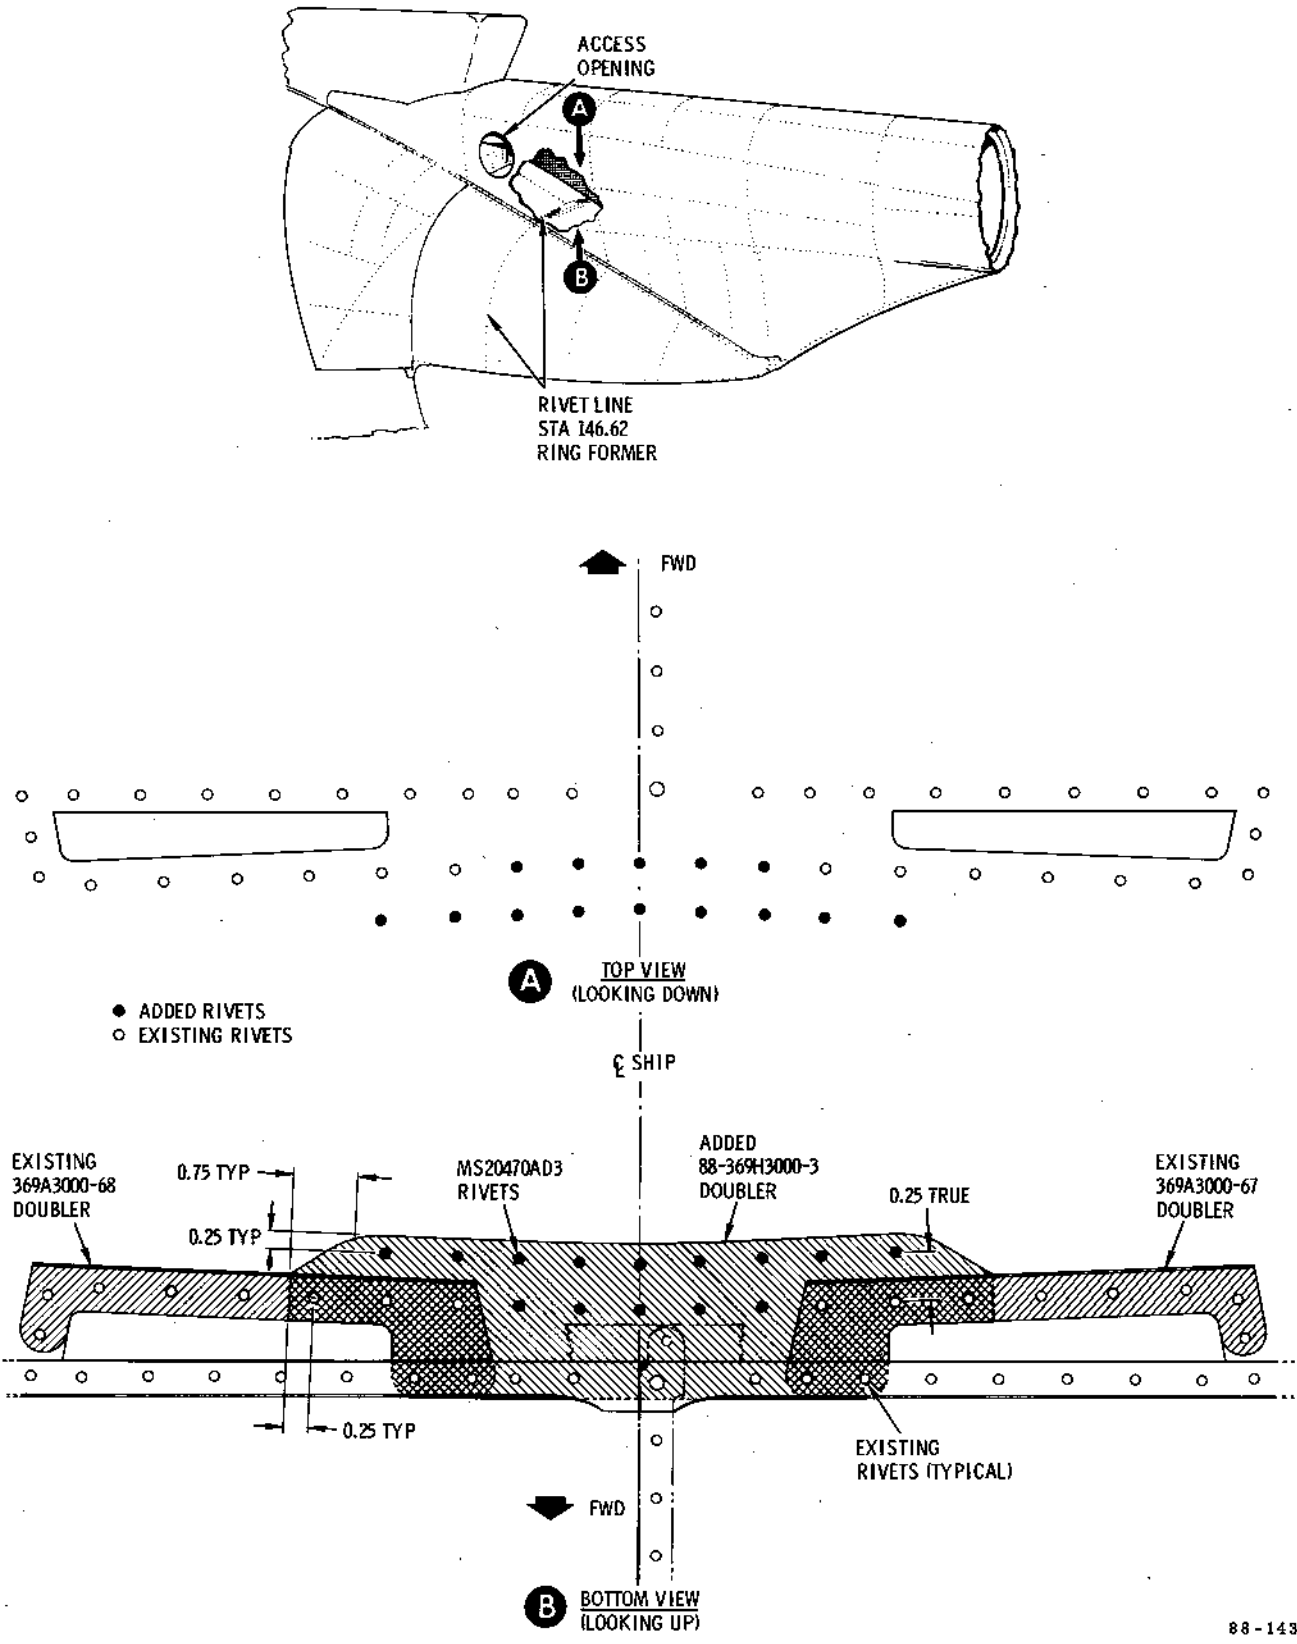

Figure 1. Fuselage Doubler Repair
- c. Using light source and mirror, visually inspect fuselage skin adjacent to Doublers for evidence of cracks. (See figure 1.)